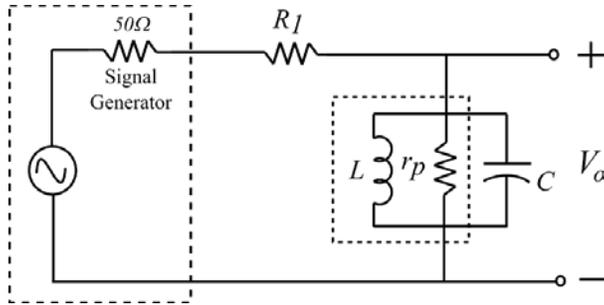

Fig. 4. A parallel-resonant circuit configured as a band-pass filter.
1. Construct a band-pass filter using a parallel-resonant circuit as shown in Figure 4. Use the same  $L$  and  $C$  values.